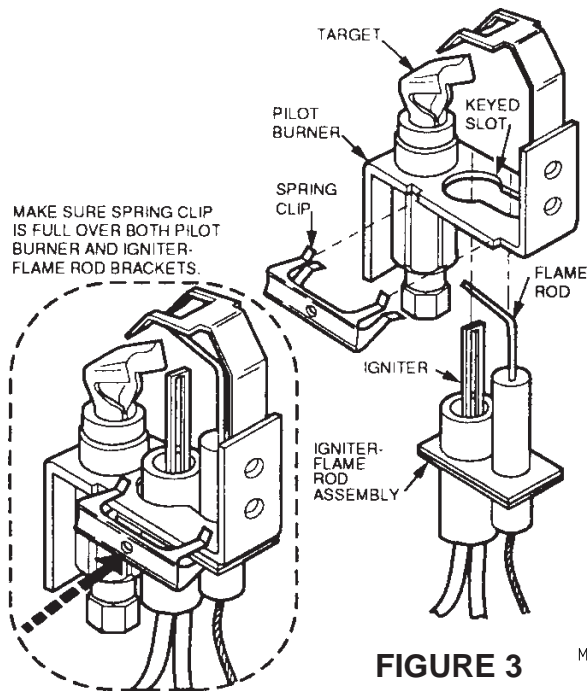

FIGURE 3
15. PGB Units Only: If equipped with a Honeywell HSP System, the pilot orifice must be changed. This pilot orifice is packaged with the Honeywell required spring. **Remove the sensor/igniter assembly shown in Figure 3 before attempting** to loosen the pilot tubing from the pilot assembly. Once the sensor/igniter assembly has been safely removed, remove the pilot tubing and replace the pilot orifice. Reinstall the pilot tubing and then attach the sensor/igniter to the pilot as shown in Figure 3.